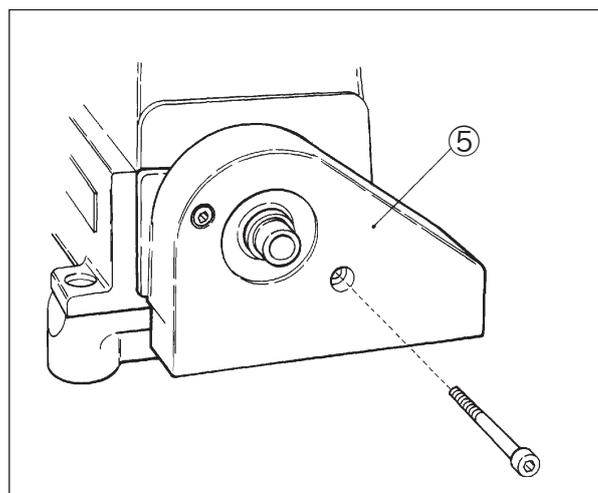

Fig. 2-12
Set the belt cover ⑤. (Fig. 2-12)